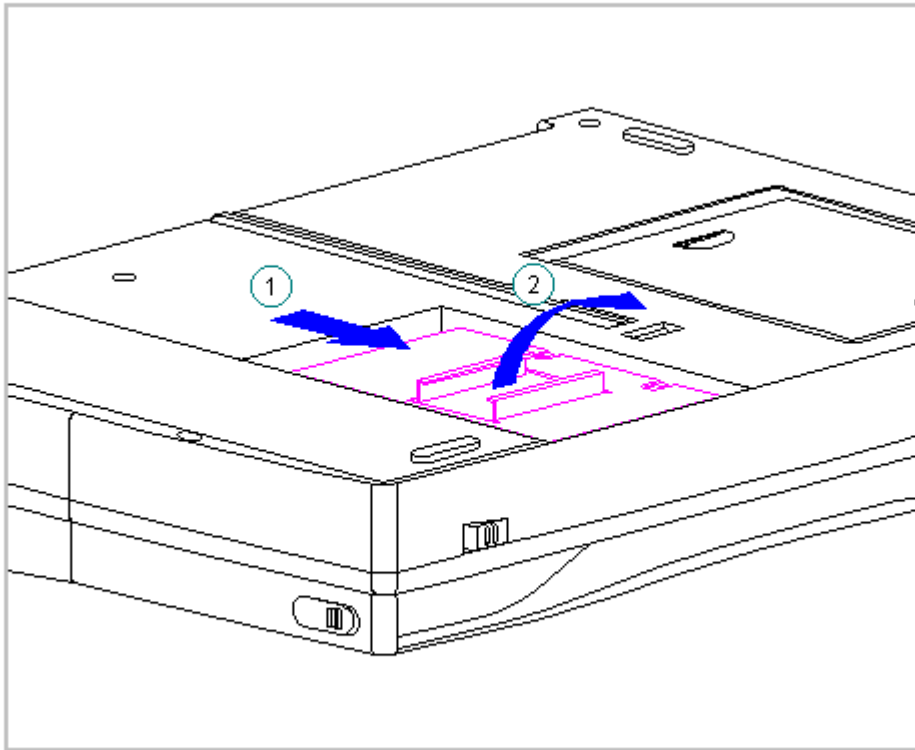

Figure 3-10. Removing the Hard Drive and Hard Drive Bracket (All Models)
2. Remove the hard drive by grasping the hard drive bracket and sliding it toward the front of the computer [1] (Figure 3-10).
3. Lift the hard drive and bracket [2] up and out of the computer (Figure 3-10).